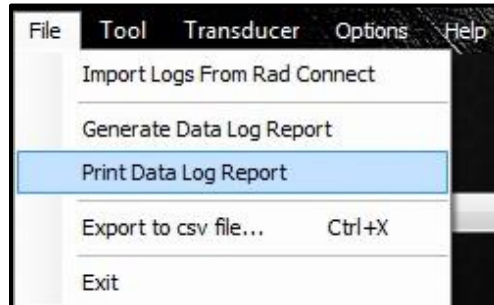

Figure 5.6-1: Print Data Log Report Button
2. In the "File" drop down menu, press "**Print Data Log Report**" (Figure 5.6-1).